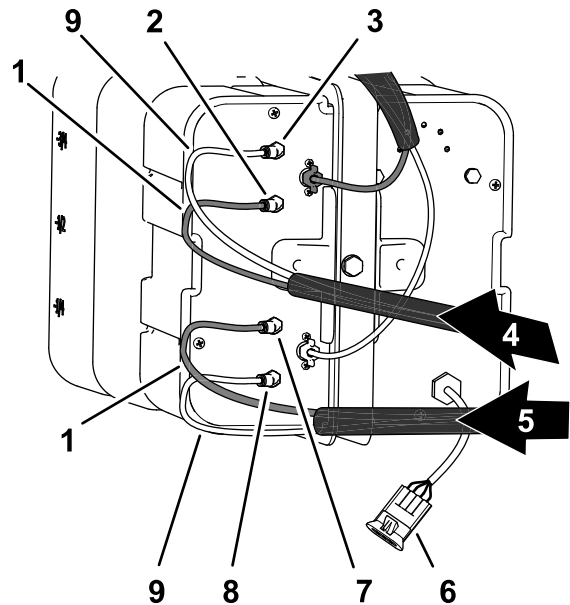

Figure 22
1. Route the foam tubes for the right boom as shown in Figure 22.
2. Insert the clear tube into the air fitting at the side compressor plate (Figure 22).
3. Insert the blue tube into the liquid fitting at the side compressor plate (Figure 22).
4. Route the foam tubes for the left boom as shown in Figure 22.
5. Insert the clear tube into the air fitting at the side compressor plate (Figure 22).
6. Insert the blue tube into the liquid fitting at the side compressor plate (Figure 22).